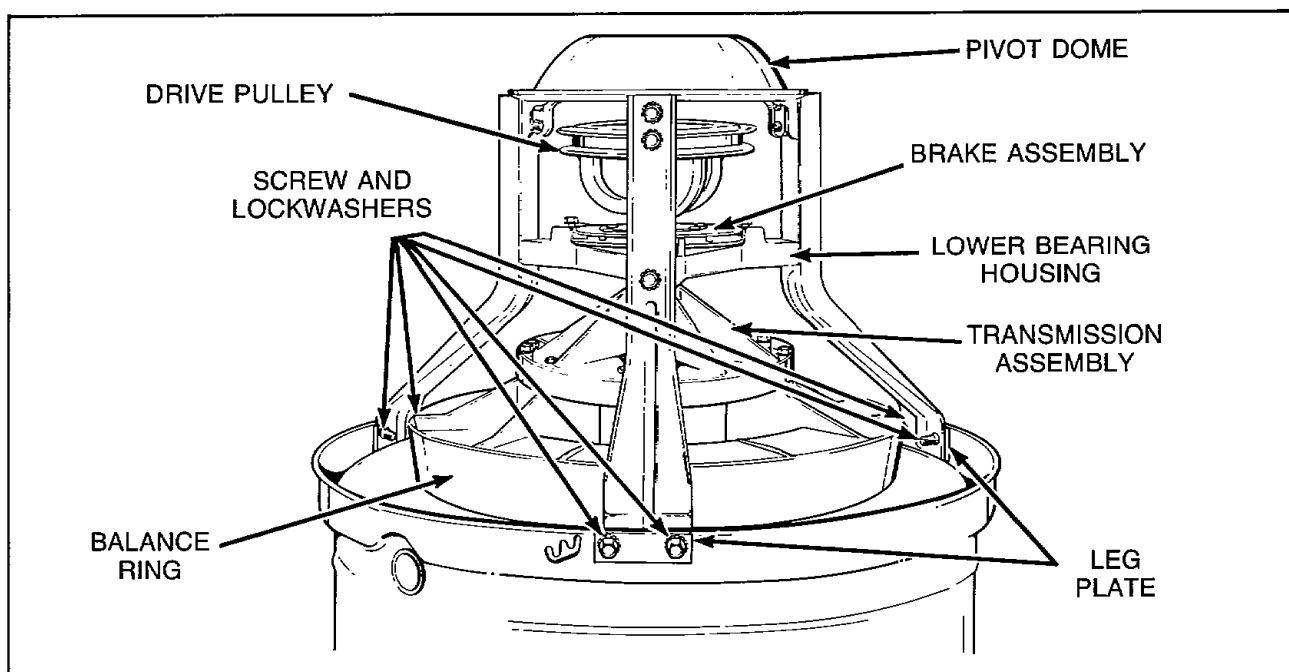

Figure 31
- s. Remove screws and lockwashers holding each support leg to outer hub, *Figure 31*. Then lift transmission, balance ring and pivot dome off tub.